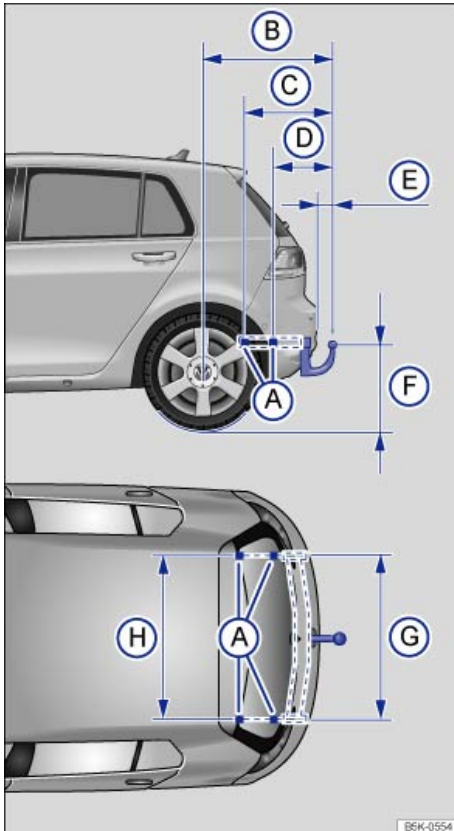

Fig. 101 Dimensions and attachment points for retrofitting a trailer hitch.
⇒ **fig. 101 (F)** be less than the specified minimum. This minimum height must be present even when the vehicle is fully loaded and subject to the maximum tongue weight.